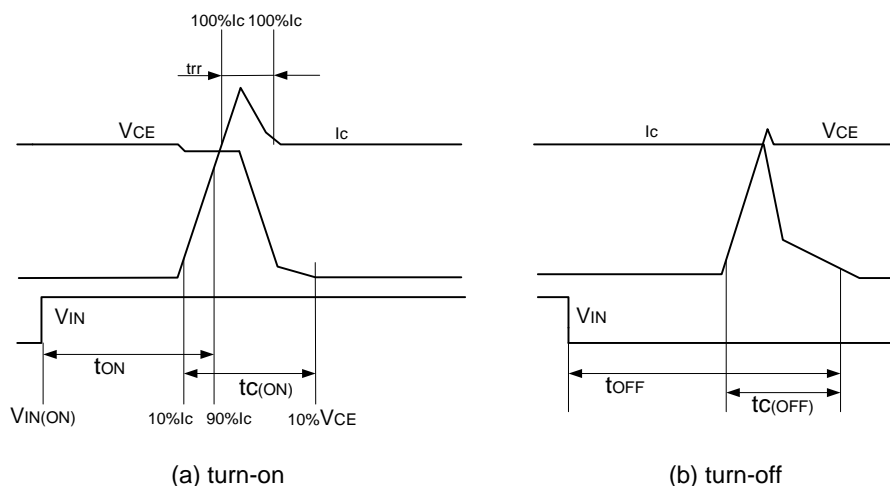

Figure 5 . Switching Time Definition
2. t_{ON} and t_{OFF} include the propagation delay time of the internal drive IC. t_{C(ON)} and t_{C(OFF)} are the switching time of IGBT itself under the given gate driving condition internally. For the detailed information, please see Figure 5.